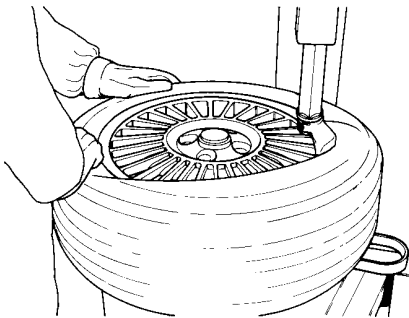

Fig. 4.1-7
G. Rotate the turntable clockwise (pedal down) and, at the same time, push down on the tire sidewall to move the bead into the drop center of the rim (Fig. 4.1-7).